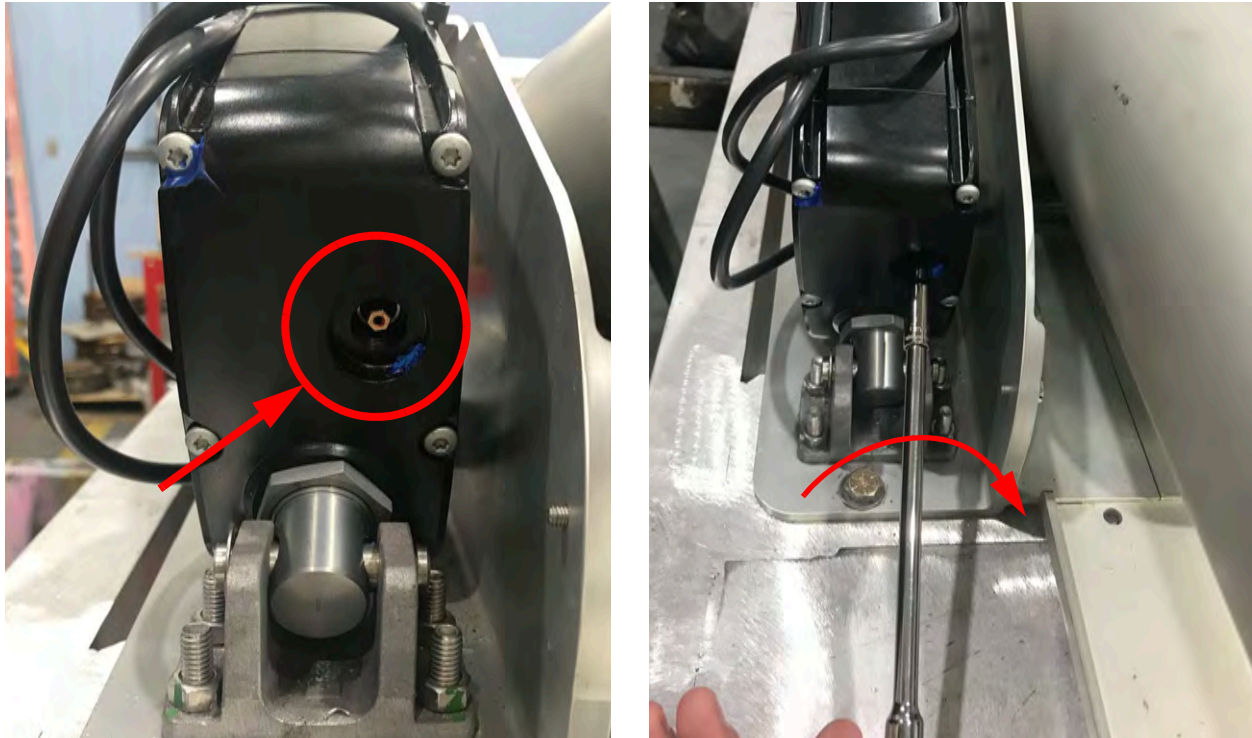

Figure 6-11 Insert Provided Allen Wrench and Turn Clockwise
8. Insert the provided 6 mm deep-well socket into the actuator (Figure 6-11). Turn the socket clockwise to lower the mast tilt to 0° degrees. Ensure the mast is firmly seated in the saddle. You may need to continue lowering until mechanical play is removed from the mast and the RCP is firm in the saddle. Do not over-tighten.